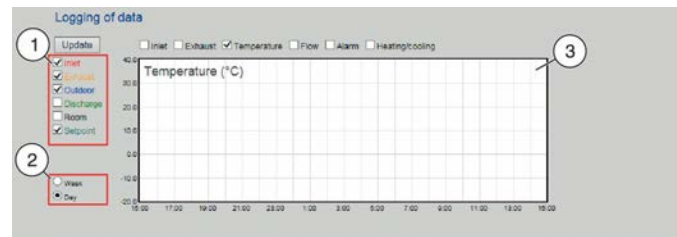

Fig. 41: Selecting measured values
- ▶ Click 'Week' or 'Day', depending on the period for which you want to view measured values (Fig. 41/2).
- ▶ Select the parameter for which you want to view measured values (Fig. 41/1).
- ▶ Click on the diagram (Fig. 41/3) to enlarge the display.